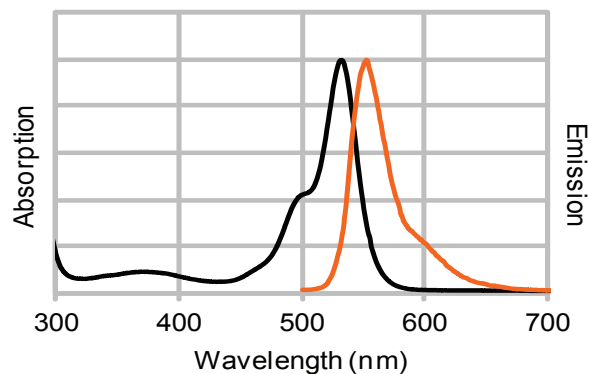

Figure 1. Absorption and emission spectra of CF™532 conjugated to goat anti-mouse IgG in PBS.
**Abs/Em Maxima:** 527/558 nm (See Figure 1)
CF™532 is an orange colored fluorescent dye with absorption and emission maxima at 527 and 558 nm, respectively (Figure 1). The dye is based on a new class of rhodamine dyes invented by Biotium scientists. Unlike traditional rhodamine dyes, CF™532 is not only bright and photostable but also highly water-soluble. As a result, CF™532 antibody conjugates retain excellent solubility and yield the brightest fluorescence among antibody conjugates prepared from spectrally similar dyes.